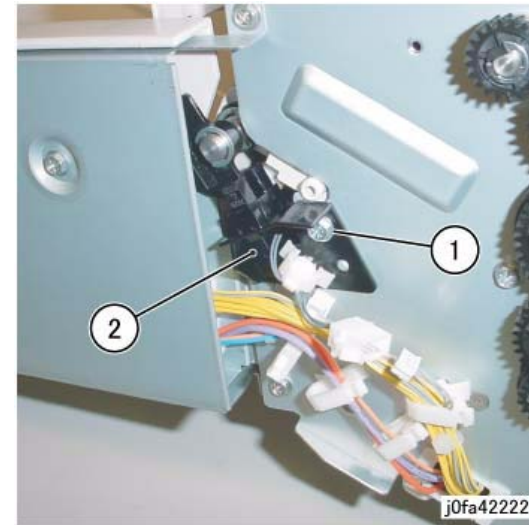

Figure 2 Removing the Set Clamp Home Sensor Assembly (j0fa42222)
4. Remove the Set Clamp Home Sensor Assembly. (Figure 2)